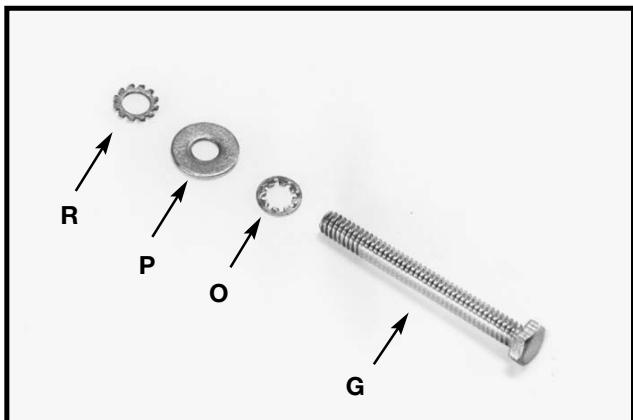

Fig. 10
- Locate the 1/4-20x2" hex head screw (G) Fig. 10. Place the 1/4" internal tooth lockwasher (O) M6.4 flat washer (P) and the 1/4" external tooth lockwasher (R) on the screw (G).